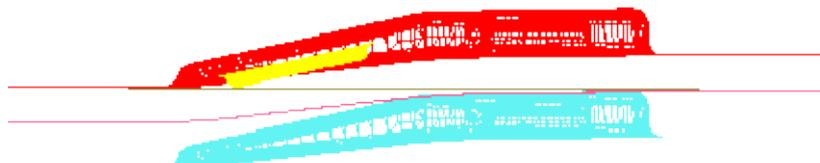

Figure 5.70 The relative position of tools and blank after positioning
5. Click  icon on the **Icon bar** to display the relative position of tools and blank, as illustrated in Figure 5.70.